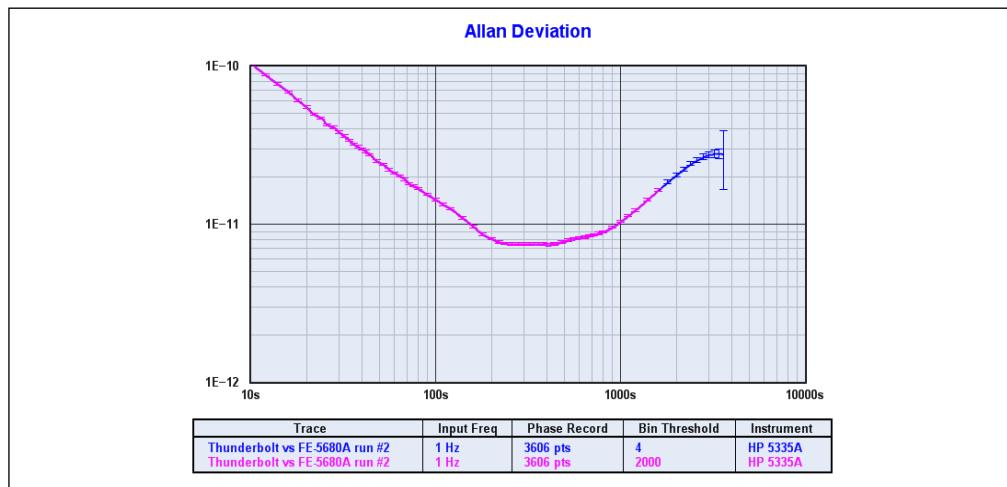

FIGURE 2-12: Bin Threshold Adjustment.
- Fewer samples are available to contribute to bins near the right end of an xDEV trace. As a result, measurement confidence decreases at longer tau intervals. To increase the minimum number of samples that must contribute to a given xDEV bin in order for that bin to be displayed, you can change the Bin Threshold parameter in the acquisition dialog, or use *Edit>Trace Properties <e>* to specify a new value for the same field at any time after acquisition. However, because TimeLab employs overlapped xDEV algorithms, small changes to Bin Threshold may have no effect. Once the phase record grows long enough to provide data at a given tau interval, each additional sample adds another data point to the corresponding xDEV bin. If this is an issue, try setting the Bin Threshold to a large fraction of the total phase record size. The idea is to force TimeLab to render the xDEV trace as if much less data were available. In Figure 2-12, two copies of the same 3600-sample .TIM file have been loaded. The blue trace was rendered with the default Bin Threshold of 4, while the shorter magenta trace was rendered with Bin Threshold set to 2000. Enabling *Trace>>Show xDEV Error Bars <Ctrl-e>* reveals the blue trace's low confidence at its longest tau.